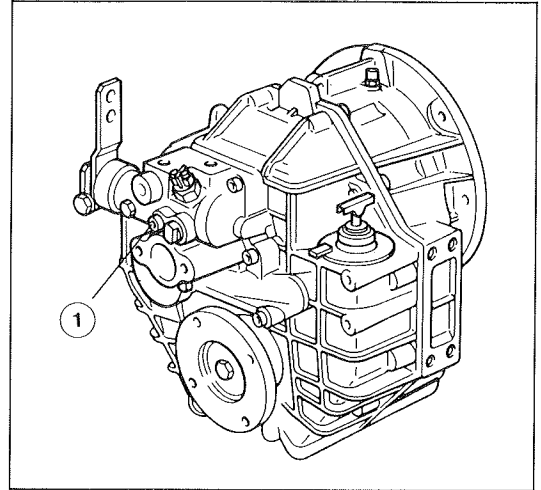

Figure 1
A threaded hole M 10x1 to connect a pressure gauge is provided on the control block (Figure 1, item 1). This hole is closed by a plug and seal when the transmission is delivered.
A pressure gauge (0-30 bar (0-440 psi)) may be connected to the measuring point provided, to monitor the shifting pressure (Figure 1, item 1).